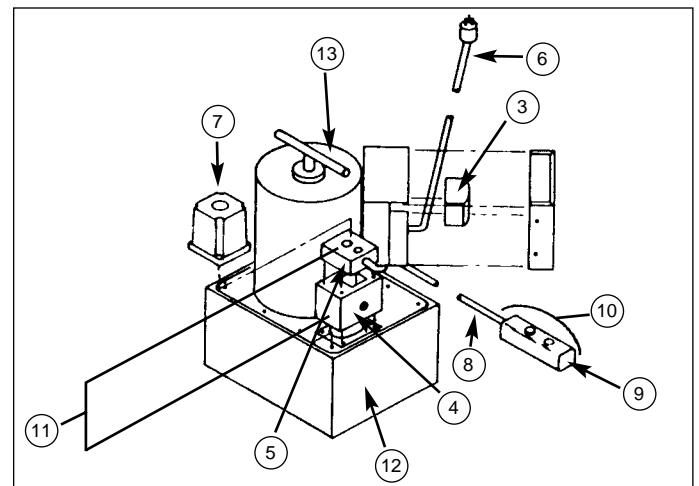

Figure 1
The EZ Liner S21 is powered by an electrically operated hydraulic pump which is operated by a remote control switch. The components of this system are identified in Figure 1.
2. Press **up** button on remote control switch to exert hydraulic pressure and press **down** button to release hydraulic pressure. (See Figure 1 — Page 2.)